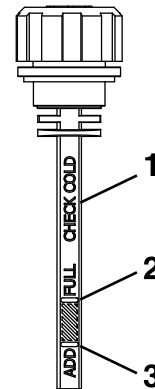

Figure 33
6. Remove the cap again and check the level of the oil on the dipstick. See Figure 33 for oil levels.